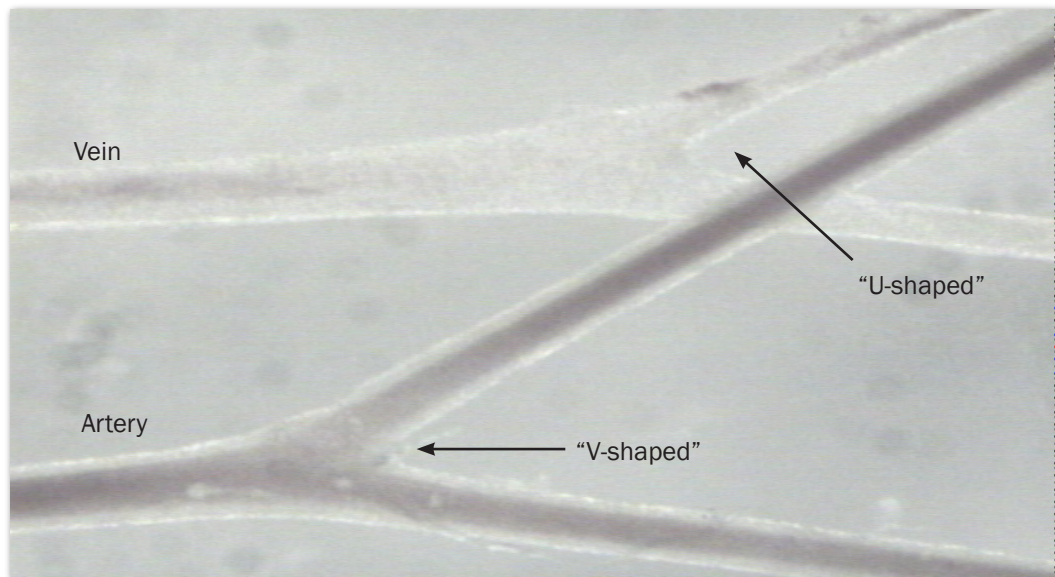

Figure 7.3 Distinguishing between artery and vein
7. Dissect away as much adipose tissue as needed around the vessels to distinguish between the artery and vein. The artery can easily be identified by the following characteristics (fig. 7.3):